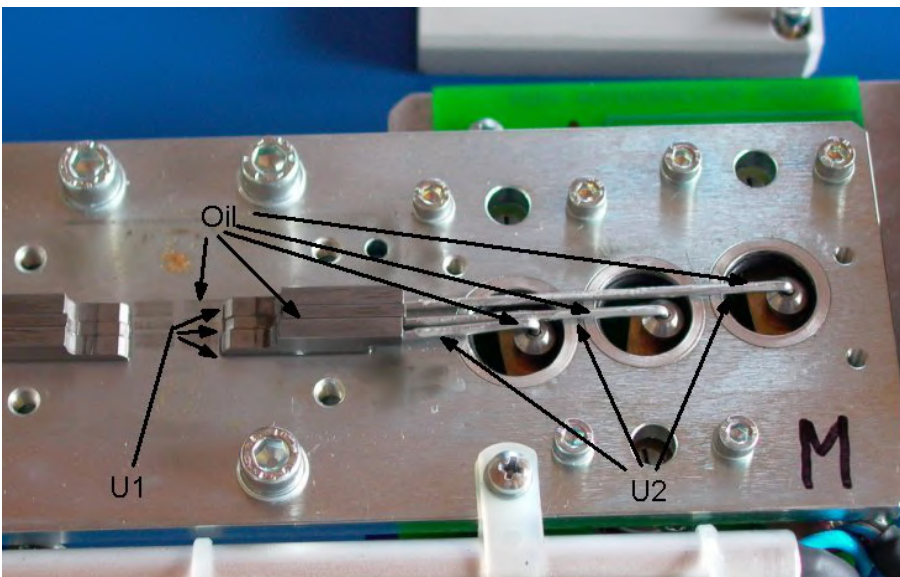

Figure 50: Details Embossing Unit
- Oil all parts that have been removed (Figure 50)
Put the six slides as shown in Figure 50 and reassemble the embossing head. Take care, that all slides move easily and the springs and the pins are in the right position. The housing with the embossing pins can only be assembled in one direction because of two extra pins in the upper half.